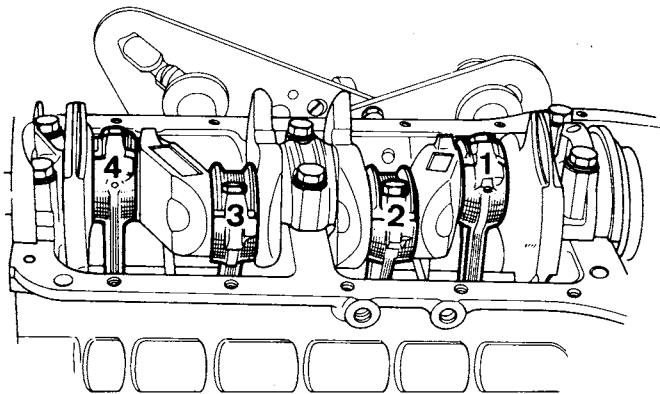

FIGURE 19. IDENTIFYING CONNECTING ROD CAPS
3. Remove the connecting rod caps. Keep the caps and bolts in numerical order so that when the pistons and rods are removed from the engine, the cap can be reassembled and kept with its mating part. If not already numbered, do so at this time (Figure 19).